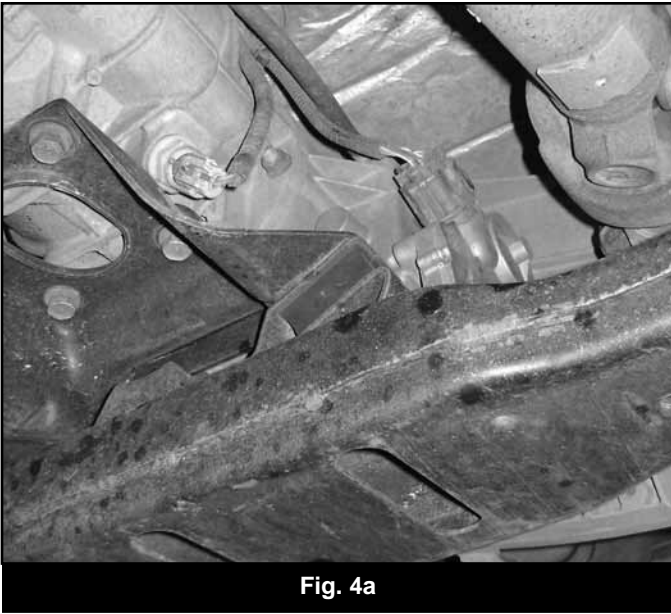

Fig. 4a
9. Remove the mount from the transmission (4 bolts), retain bolts. (Fig 4a, 4b)